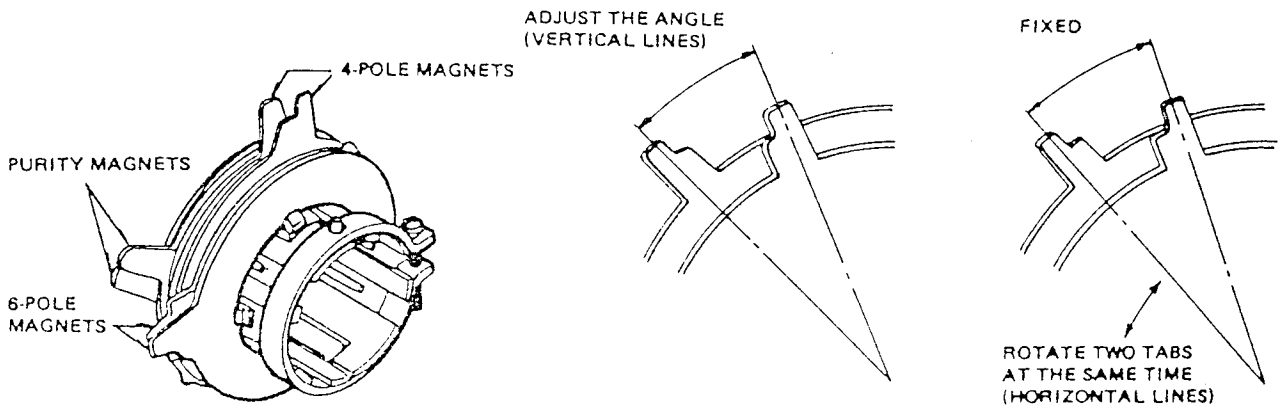

Figure 14
- (c). Adjust two tabs of the 4 Pole Magnets to change the angle between them (see fig. 14) and superimpose red and blue vertical lines in the center area of the picture screen. (see fig. 15).